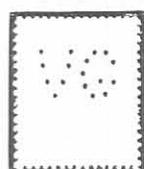

Figure 4
3. In recent years the Victoria Government has been using the VG Perfin illustrated in Figure 4. Prior to this, they used a machine that perforated 12 stamps at a time, each of which was slightly different. And, again prior to that machine, there was an earlier 12-head machine, again each one different. Recently I have noted on recent Australian stamps a VG as in Figure 6, which differs considerably from Figure 4. I found this was as one of the previous machine. Figure 5 shows a pair from that machine with the stamp on the right (with missing hole) as the recent ones. The recent usage has no missing hole, and Figures 6 and 7 suggest that the machine is now only punching one stamp at a time. Was there a major repair or what? The Figure 4 Perfins still appear to be in use, so was there a repair to the old machine for